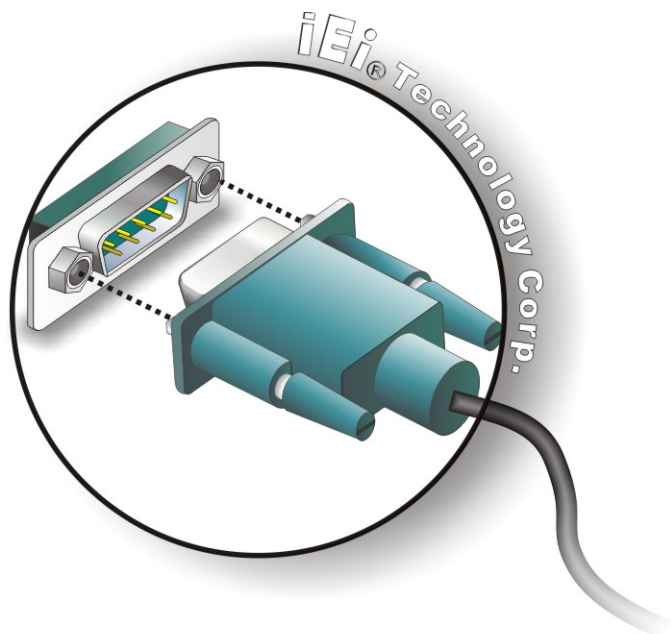

Figure 3-19: Serial Device Connector
Step 2: Insert the serial connector. Insert the DB-9 connector of a serial device into the DB-9 connector on the bottom panel. See Figure 3-19.